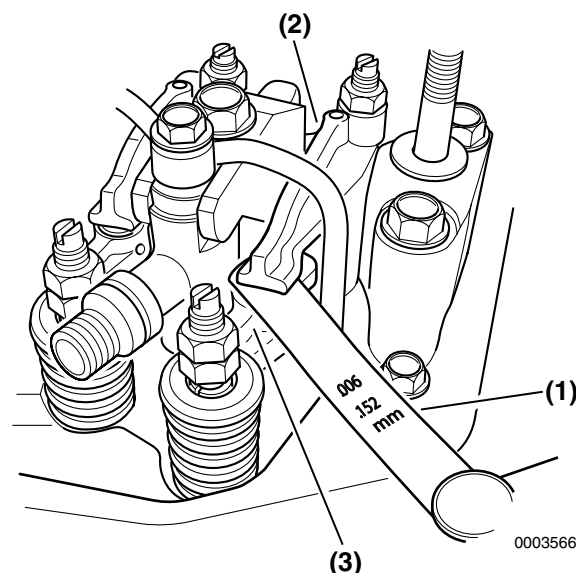

Figure 6-82
8. To adjust the actual valve clearance between the rocker arm and the valve bridge, insert a feeler gauge (**Figure 6-82, (1)**) of the correct thickness (See *Adjustment Specifications* on page 6-6) between the rocker arm (**Figure 6-82, (2)**) and valve bridge (**Figure 6-82, (3)**). Record the results and use this value as an indication of wear.